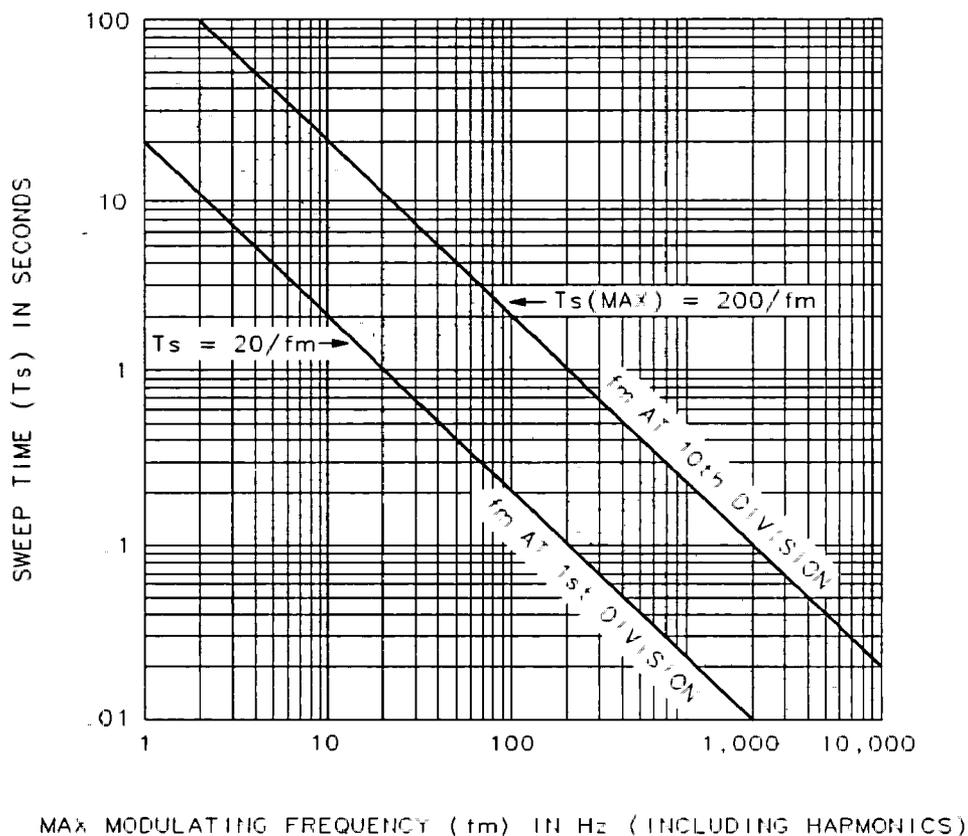

Figure 6-30. Maximum Modulation Frequency versus Sweep Time
7. See Figure 6-30, which shows maximum modulation frequency (f_m) in Hz versus sweep time (T_s) in seconds. Set the sweep time less than $T_s(\max)$ for that maximum modulation frequency (f_m) including the harmonics of the signal. The upper curve relates the sweep time to the maximum modulation frequency that can be observed (that is, the modulation frequency represented by the right edge of the graticule). The lower curve represents the modulation frequency one division from the left side of the graticule.